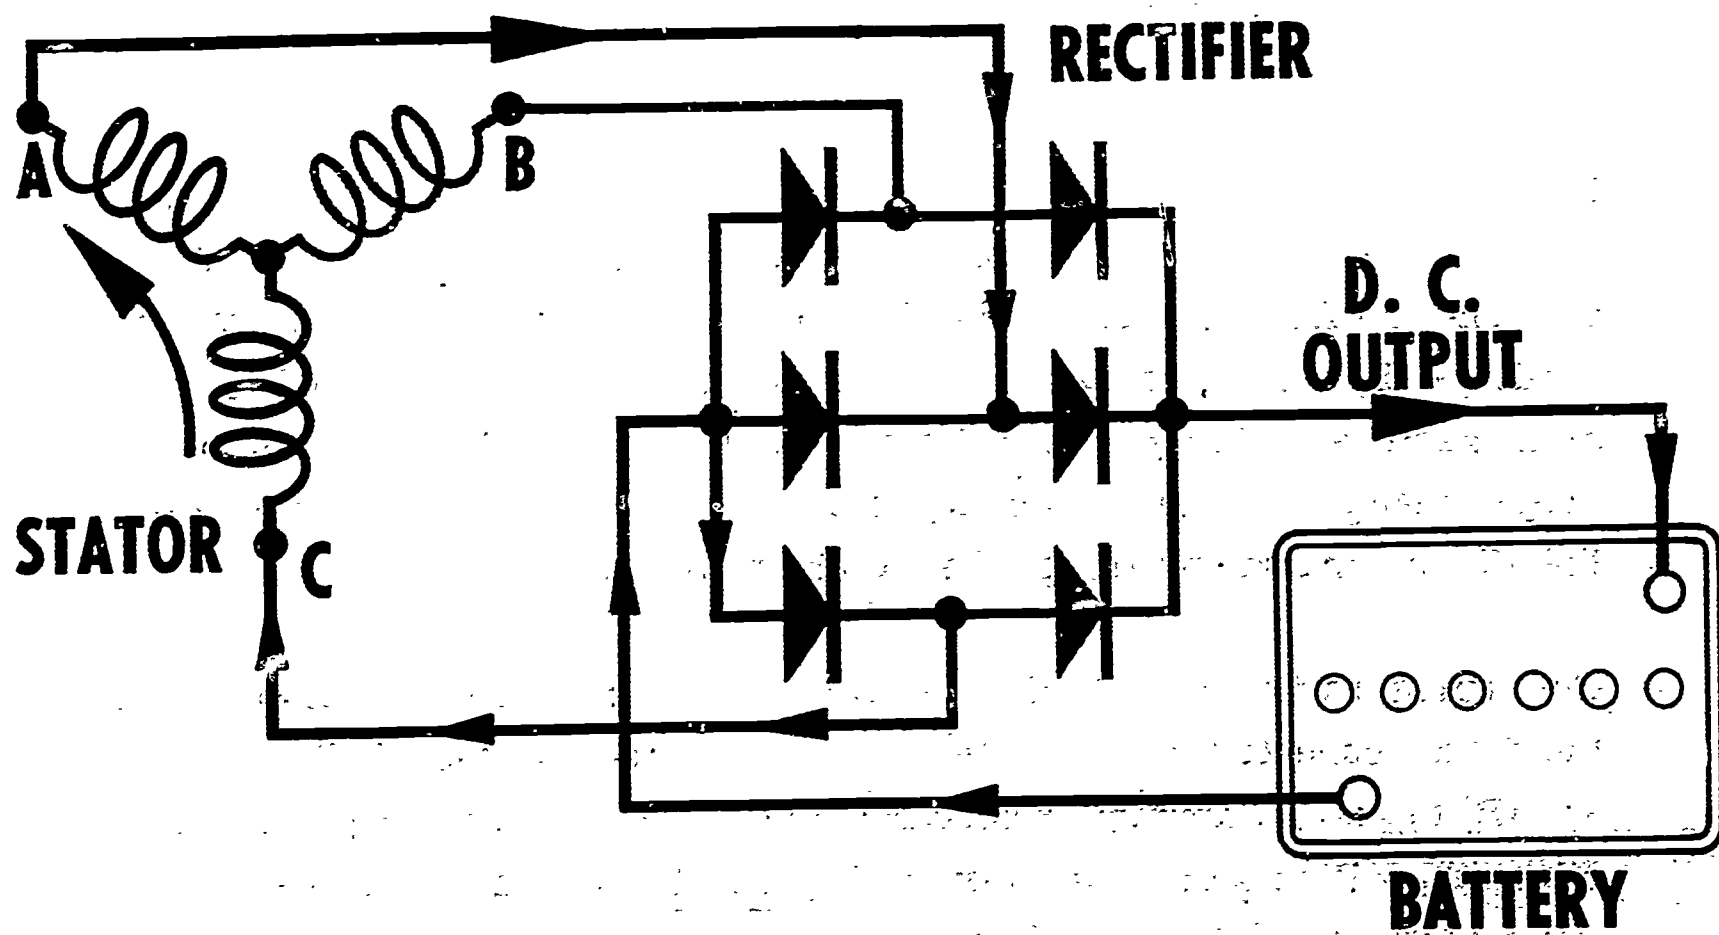
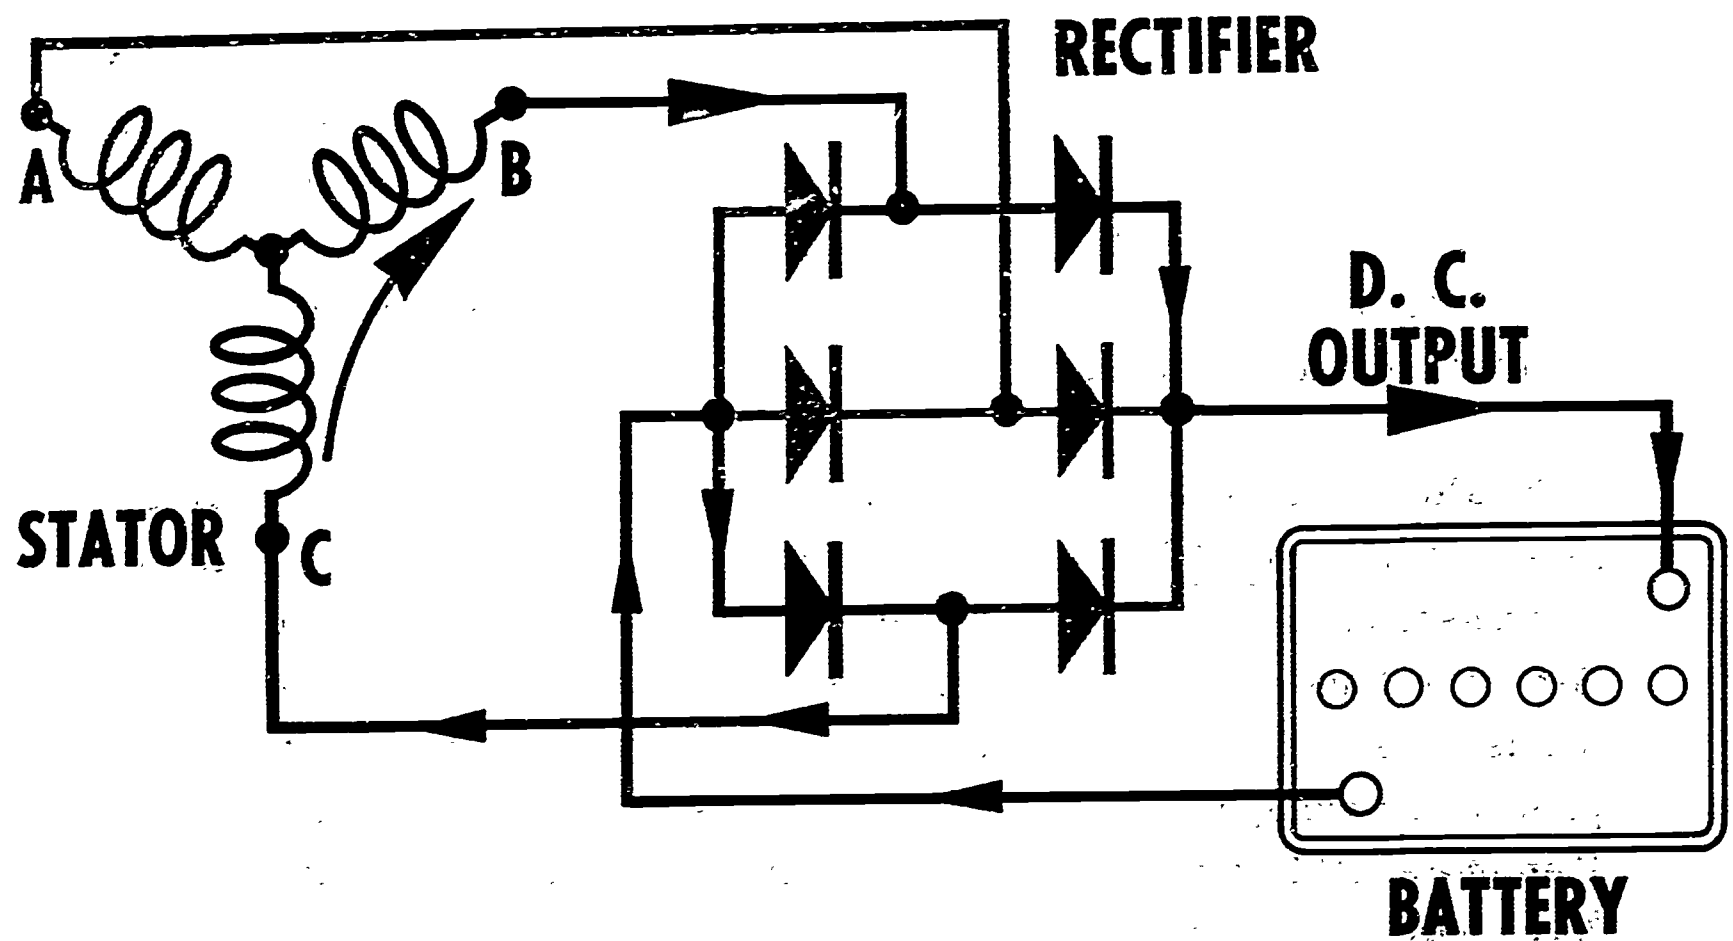

Fig. 21 Diode rectifier three phase output
Fig. 23 Diode rectifier three phase output
Figures 21 and 22 show how the diodes rectify the AC into DC in order that DC is supplied to the battery during the instant that current flows through only two of the stator windings. In Figure 21, the voltage in the windings (A) and (C) causes current to flow from the (A) terminal to the diode rectifier. Current then flows through the diode, connected in the proper manner to permit current flow. From this diode, current flows to the (BAT) terminal of the alternator, on through the battery to the return circuit.
From Figures 21 and 22 we can see that -- regardless of the direction of current flow in the alternator -- the direction of current flow through the battery always is in the same direction.
Figures 23 and 24 show how the diodes rectify AC to DC when the rotor poles are in a different position from that shown in Figures 21 and 22. Current now flows through coils (B) and (C). In Figure 23, the voltage in windings (B) and (C) causes current to flow from the (B) terminal to the diode rectifier. Current then flows through the diode connected in the proper manner. From this diode, current flows to the BAT terminal of the alternator and on through the battery to the return circuit.
Continuing its flow back to the rectifier, the current then travels through the diode connected to the (C) terminal and on through the windings (C) and (B) to the (B) terminal where it started. When the rotor poles have changed position from that shown in Figure 23, current now flows from the (B) coil to the (C) coil and on through the rectifier to the battery and back through the return path as in the other phases mentioned before.